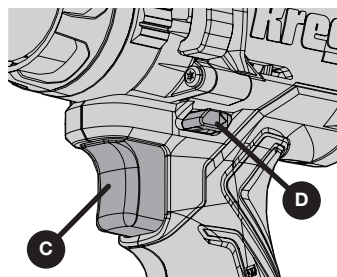

Figure 11
- To select forward rotation (clockwise), release the Variable Speed Trigger Switch (C) and depress the Forward/Reverse Button (D) on the right side of the tool.
- To select reverse (counterclockwise), depress the Forward/Reverse Button (D) on the left side of the tool (shown in Figure 11).